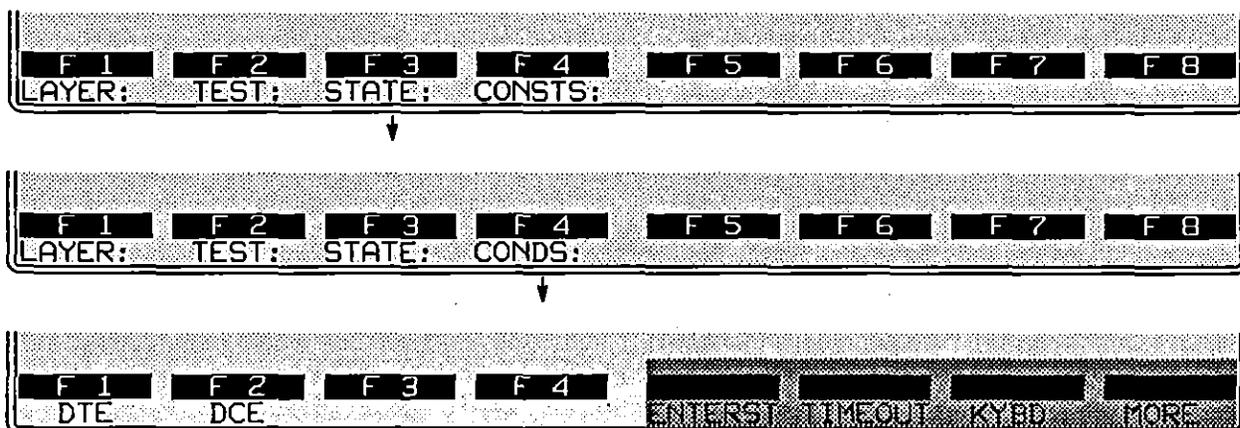

Figure 43-4 The softkeys for *DTE* and *DCE* are used to monitor ISDN protocol events once *Layer: 3* has been entered on the Protocol Spreadsheet.
- A group of conditions and actions at Layer 3 on the Protocol Spreadsheet that facilitate ISDN programming. Figure 43-4 shows the softkey path to the first rack of condition softkeys when the Q.931 package is loaded in at Layer 3 and a LAYER: 3 programming block has been opened on the spreadsheet.
When the Q.931 personality package is loaded in (via the Layer Setup screen), a set of conditions checks DTE and DCE leads both in monitor and emulate modes. This set of conditions is accessed by the DTE and DCE selections on the first rack of condition softkeys at Layer 3. See Figure 43-4.